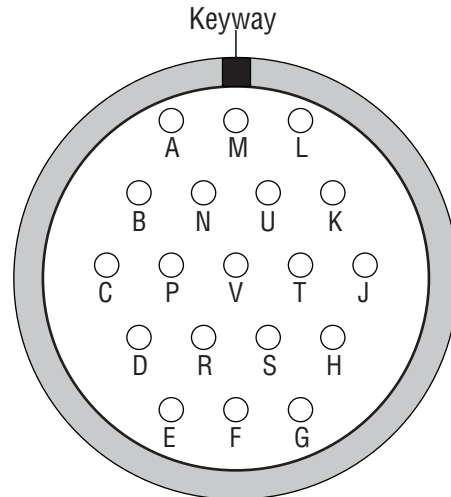

Figure 4-2: Rear Panel 19 pin connections
**1. CONTROL CABLE SOCKET:** The control cable connects to the power source at this 19-pin connector (of which 5 pins are used). It contains the signals required to allow the welding power source and the wire feeder to work together as a system. (Refer to Fig 4-2 and 4-3).